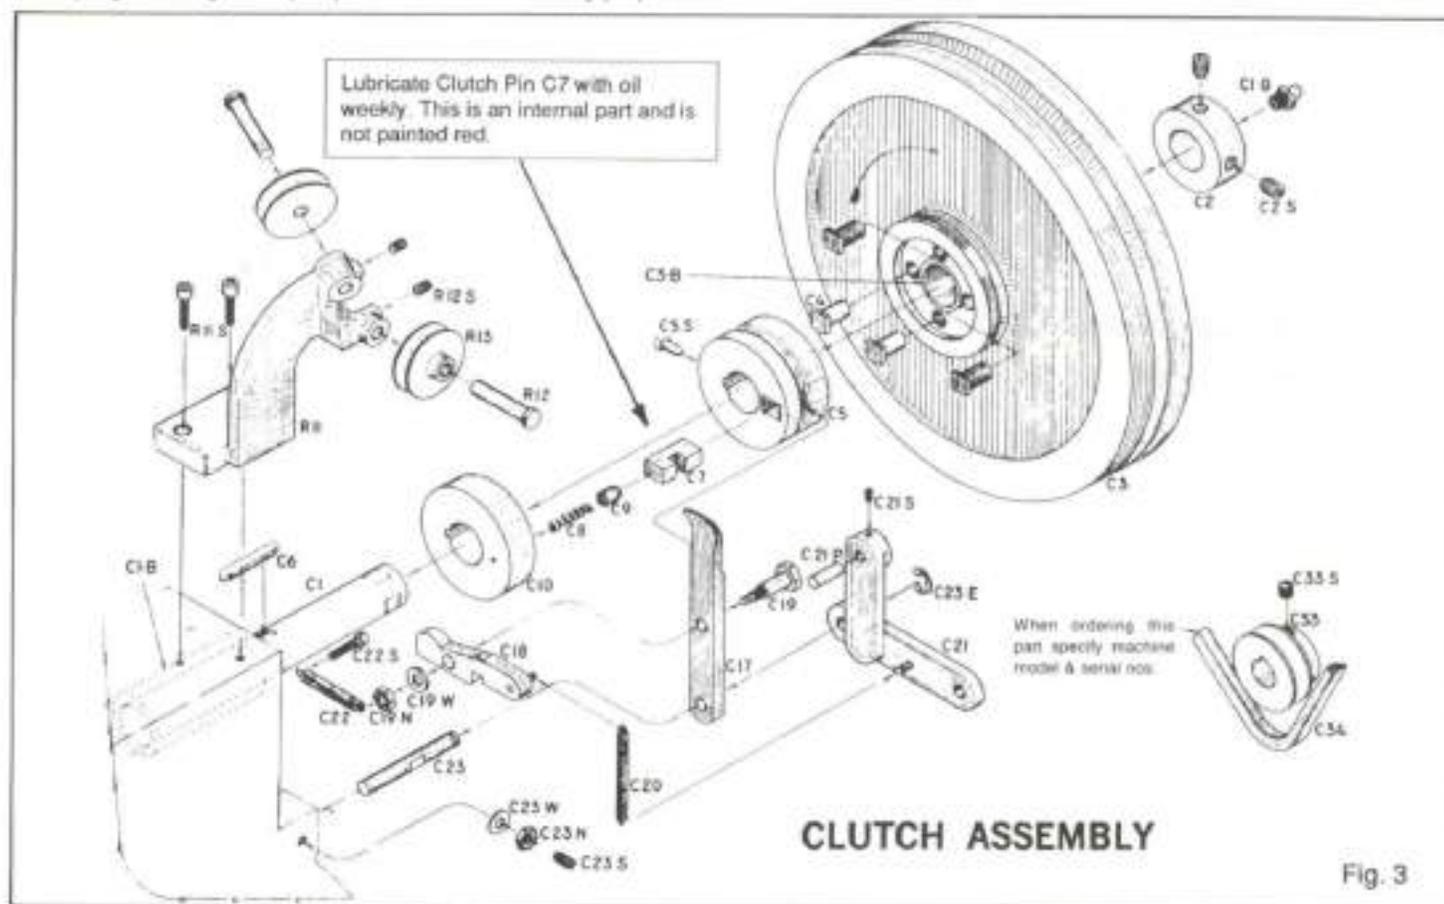

Fig. 3
3. Remove Flywheel and clutch operating parts. (Ref. pg. 5 & Fig. 3.)
## NON-REPEAT DEVICE — OPERATION AND CHECK — (See CLUTCH ASSEMBLY Drawing Fig. 3)